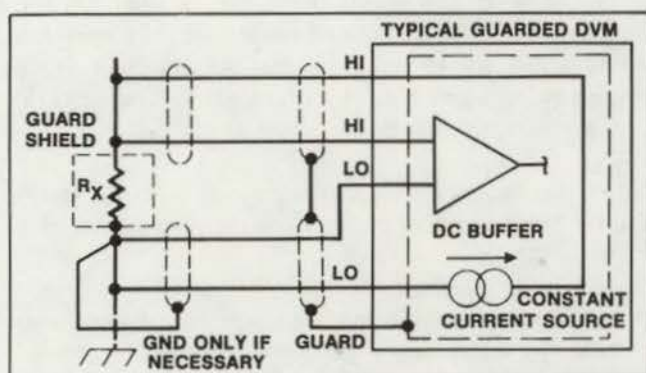

Figure 110.
**What do I do with the guard during accurate, 4-wire resistance measurements especially when the unknown resistance is at ground or at some potential? (See Figure 110)**